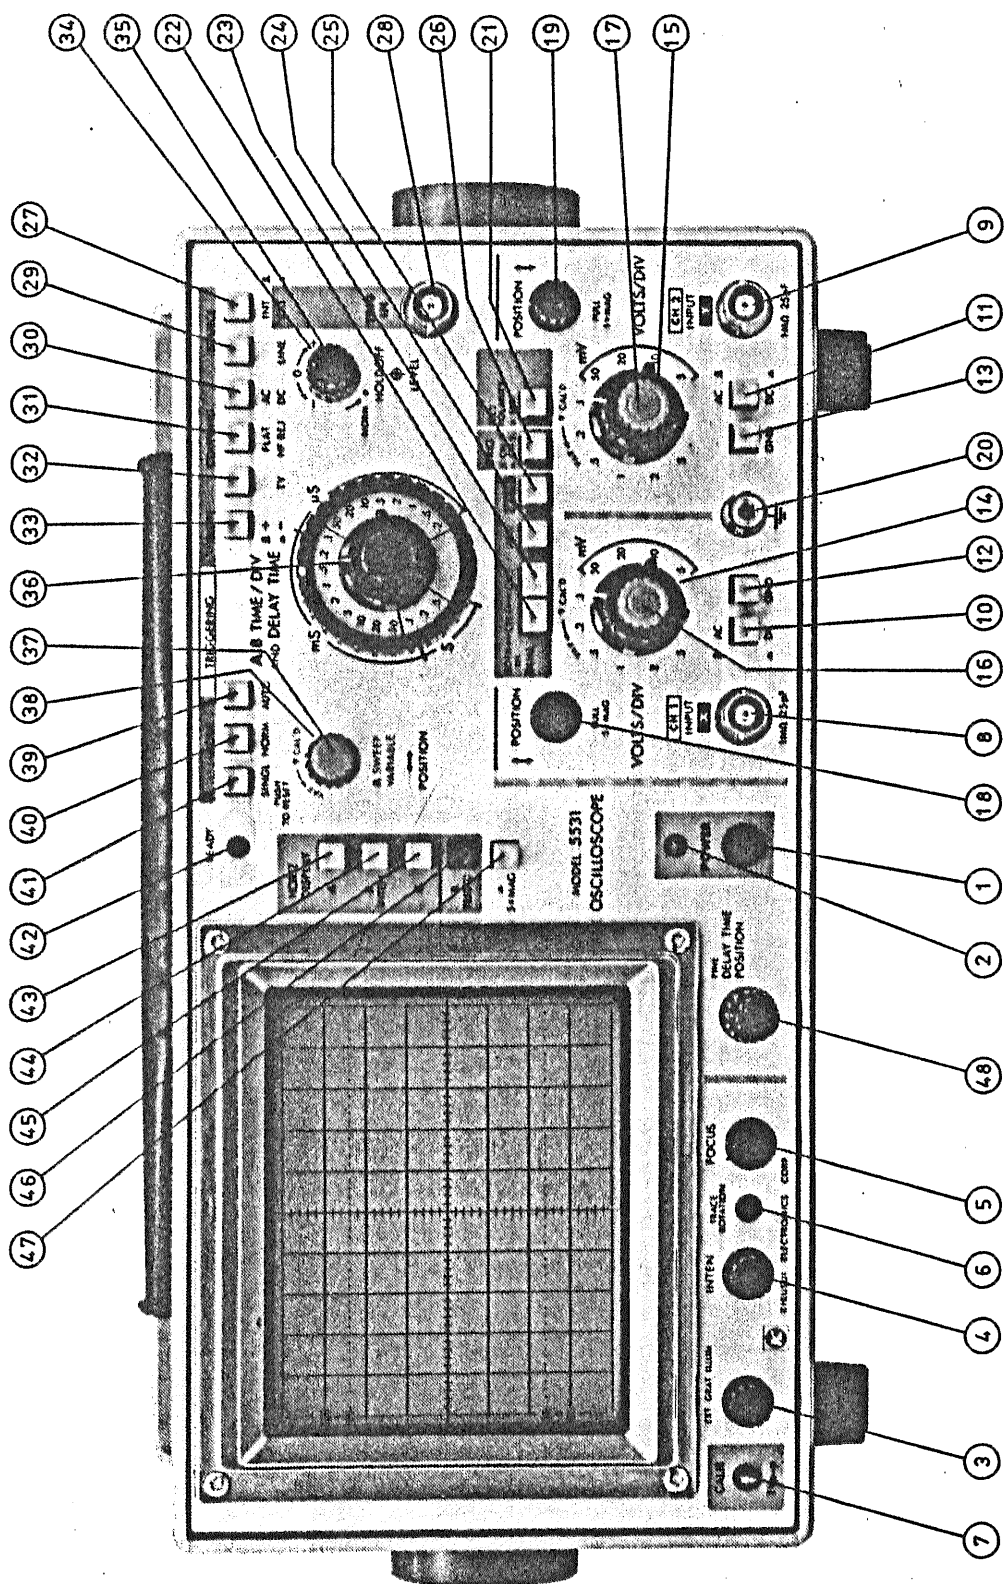

Figure 1
4.1 Explanation of Front Panel (See Figure 1.)